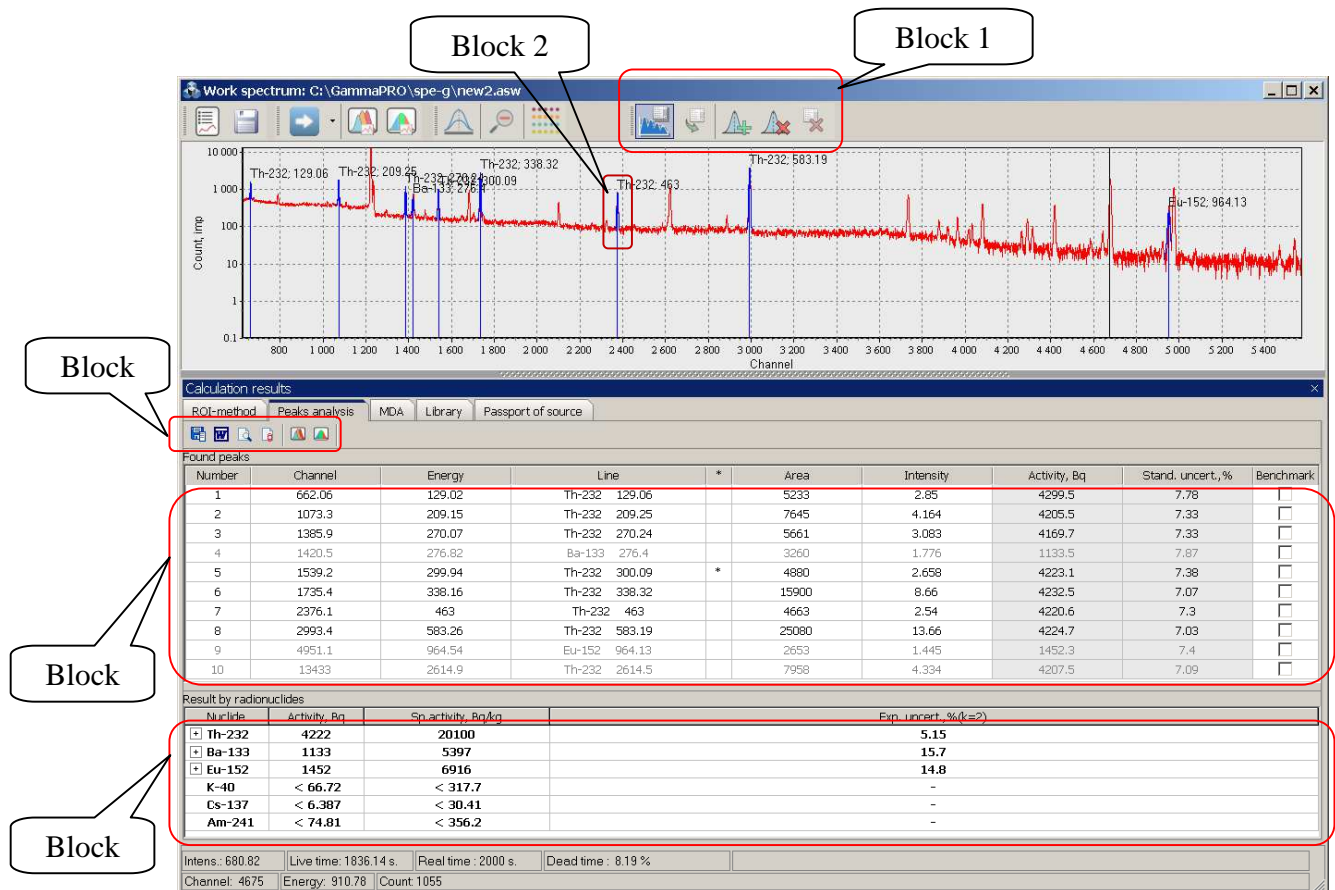

Figure 38. Spectrum window view after peak search
6.2.8 On the toolbar of the spectrum window (Fig.38, block 1), press  (**New search peak and calculation**). If the spectrum has correct calibration by energy, FWHM and shape of the spectrum, the **Peak analysis** tab of the measurement results panel will display information on any discovered peaks (Fig.38, block 3). Also, found highlighted peaks with titles will appear on the spectrum graph (see Fig.38, block 2).
The toolbar above the table of **Found Peaks** contains additional buttons   (see Fig.38, block 5). These buttons are intended for sending of data about found peaks to peak FWHM and shape calibration. It should be noted that even though the information about the FWHM and shape value is not available in the **Found Peaks** table, this information is stored in the programme and may be sent to dialogue windows generating FWHM and shape calibrations.
New records in DB could be added directly from the spectrum window by the button , situated in the inserts **ROI-method** and **Peaks analysis**, placed in the window **Calculation results** (see Fig.30 and Fig.38, unit 5).